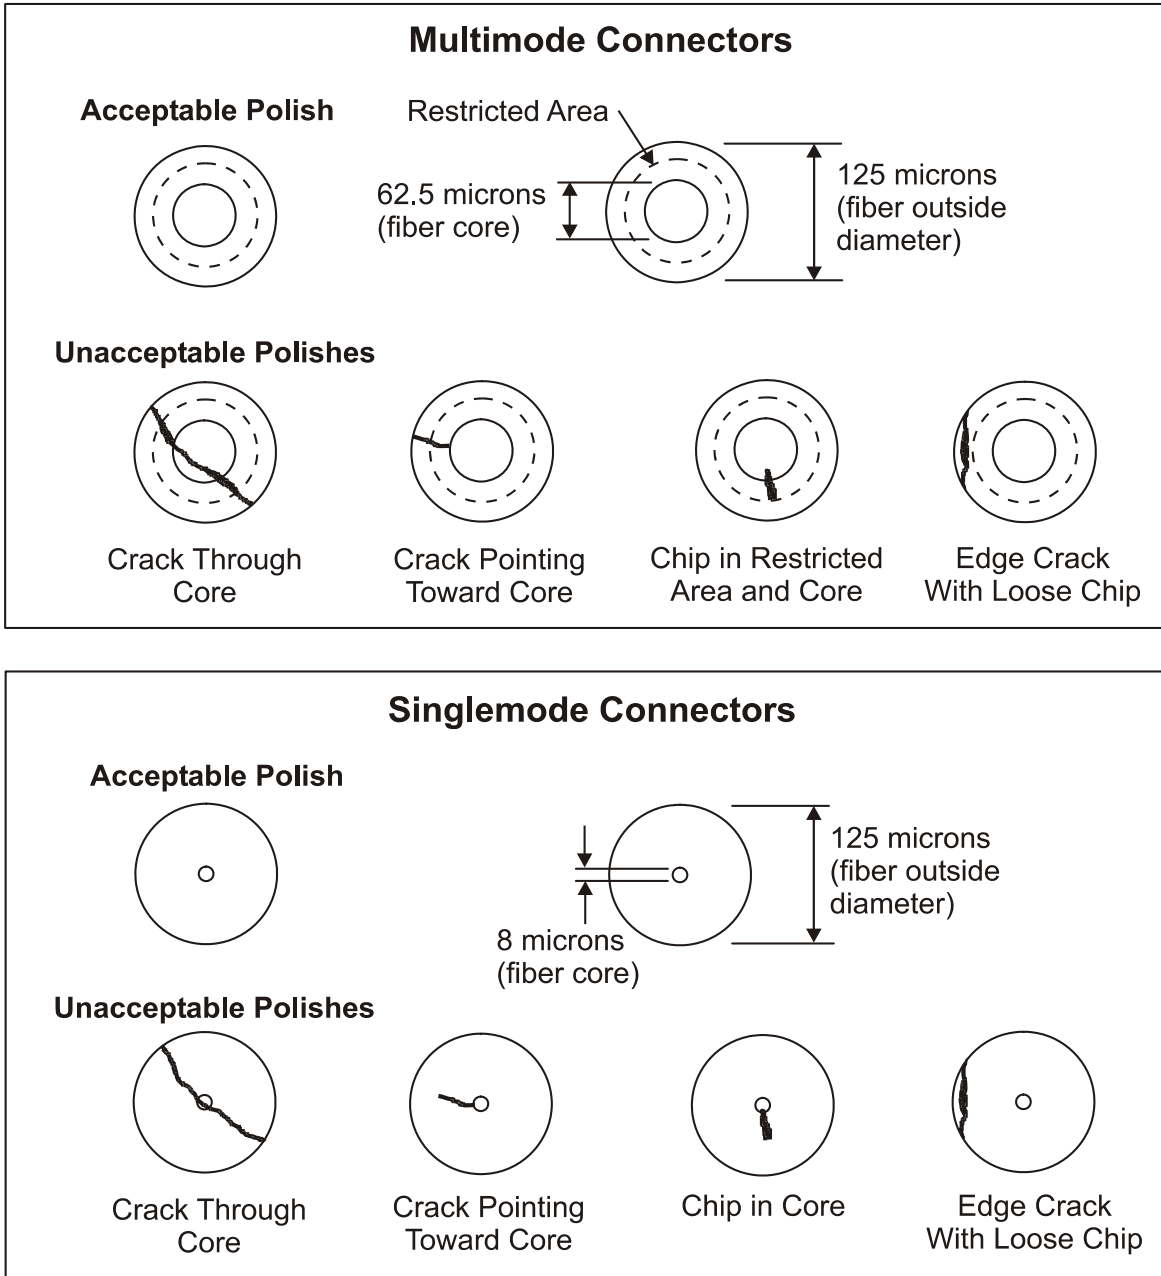

Figure 37 End Face Inspection for Connectors
2. **Inspect Fiber End**—An acceptable fiber end is free of cracks. Voids or scratches must be avoided in the core area (Figure 37). If the fiber is unacceptable, this fiber end must be reterminated.